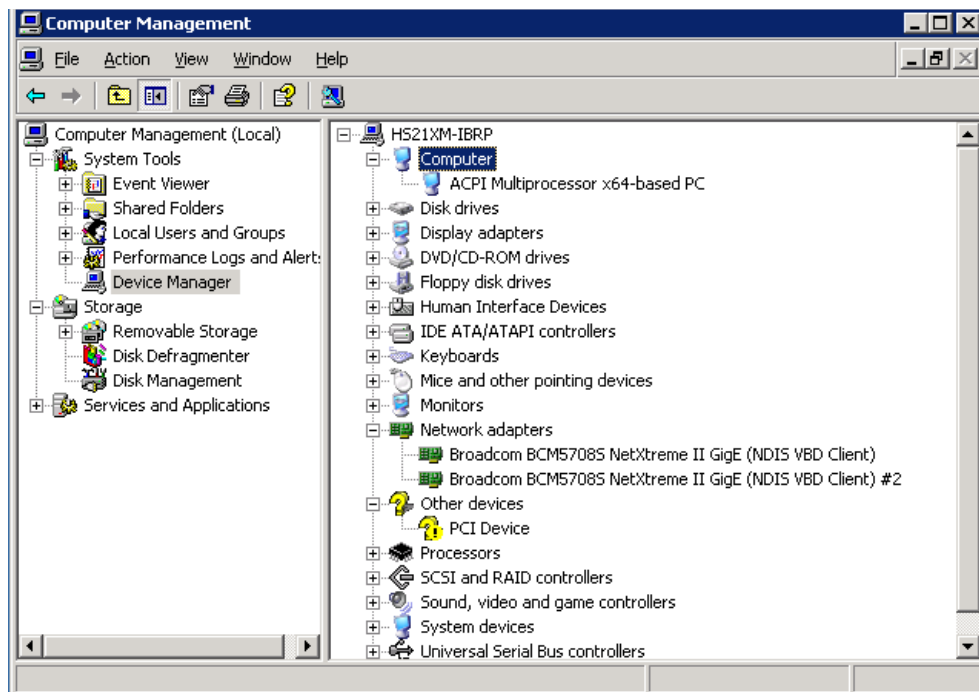

Figure 5-2 Verify InfiniBand HCA installation on Windows Host
1. Log in to your Windows Server 2003 host. Ensure that the InfiniBand HCA (Host Channel Adapter) is installed on the blade from the Windows Device Manager as shown in Figure 5-2. Notice that Windows could not recognize a PCI device because the InfiniBand host driver is not yet installed on the system.